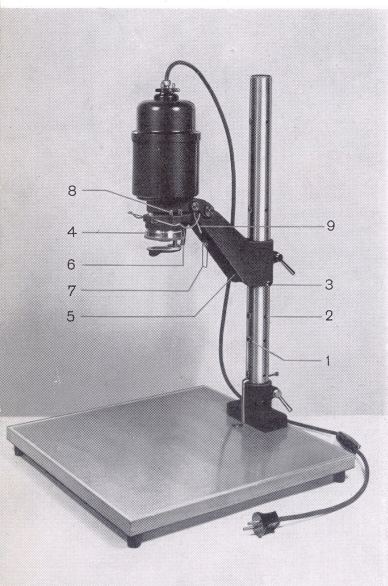

fig. 1
The instrument is set up as shown in Fig. 1. The numbers appearing on column (1) must appear facing towards the operator. The arm is slipped on the column from the top.